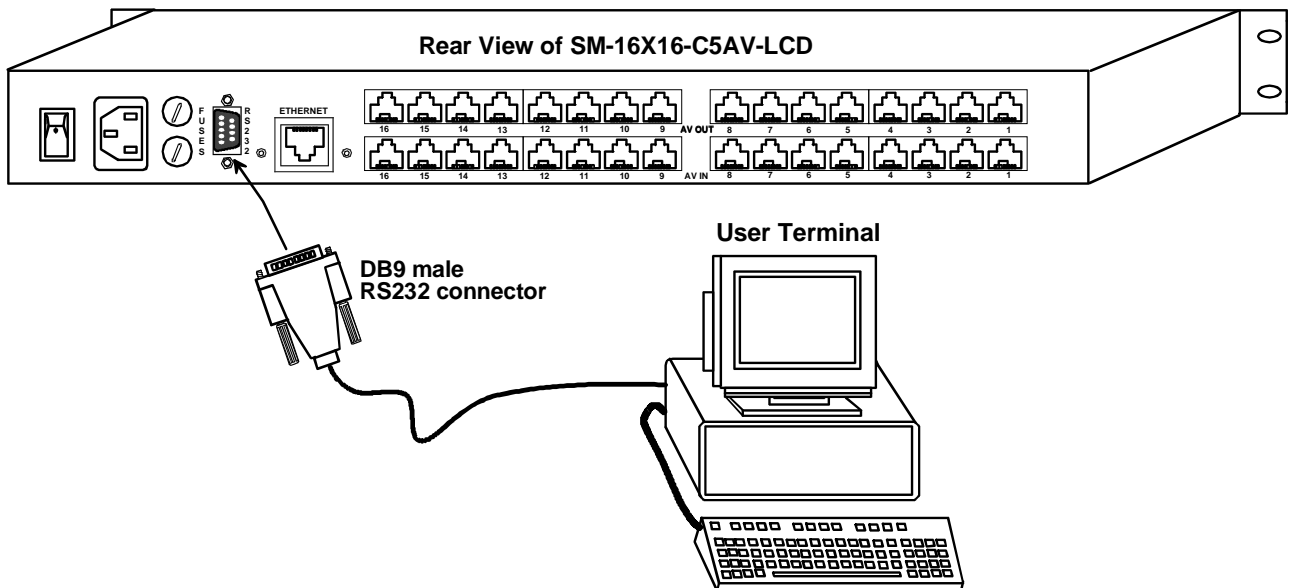

Figure 9- Connect user terminal to VEEMUX
Note: This total length of CAT5 cable between the ST-C5VA-600 Remote and Local units cannot exceed 600 feet. (See Fig. 9)
7. For direct connection of a user terminal, connect a male-to-female DB9 cable from a serial port on the terminal to the DB9 female connector on the VEEMUX. The cable should be wired straight through (pin 1 to pin 1, etc.) (See Fig. 9) The user terminal will control the VEEMUX via the RS232 interface (page 14). See page 30 for cable pinouts for PS/2, SUN, and MAC terminal connections.